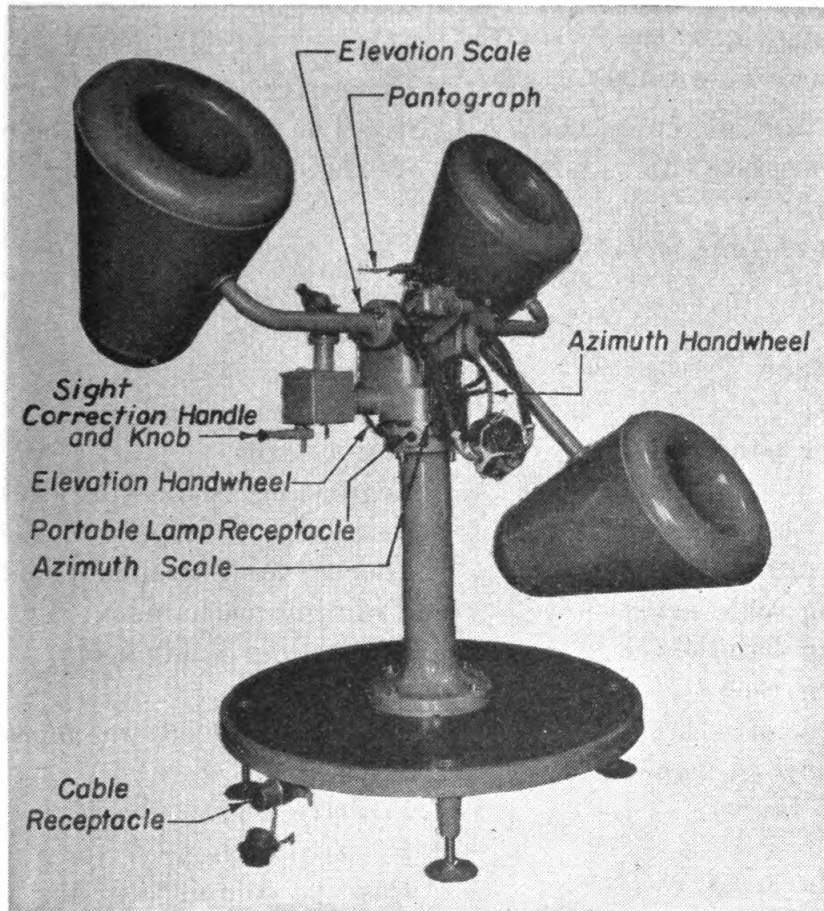

FIGURE 103.—Sound locator M2.
- (1) Two-horn assembly.
- (2) Single-horn assembly.
- (3) Corrector assembly (in carrying case).
- (4) Column.
- (5) Platform.
- (6) Cable and cable reels.
Q. Which horn is a common horn for the azimuth and elevation listeners? *A.* Upper right horn, figure 103.
Q. Give the nomenclature and state the purpose or use of each part of the M2 sound locator. *A.* See figure 103.
Q. Point out the following parts and give the purpose or use of the part. A. See fig. 103.
Common horn.....	Used to collect sound for both azimuth and elevation. (Upper right horn, fig. 103.)
Elevation horn.....	Used to collect sound for azimuth. (Lower right horn, fig. 103.)
Azimuth horn.....	Used to collect sound for azimuth. (Left horn, fig. 103.)